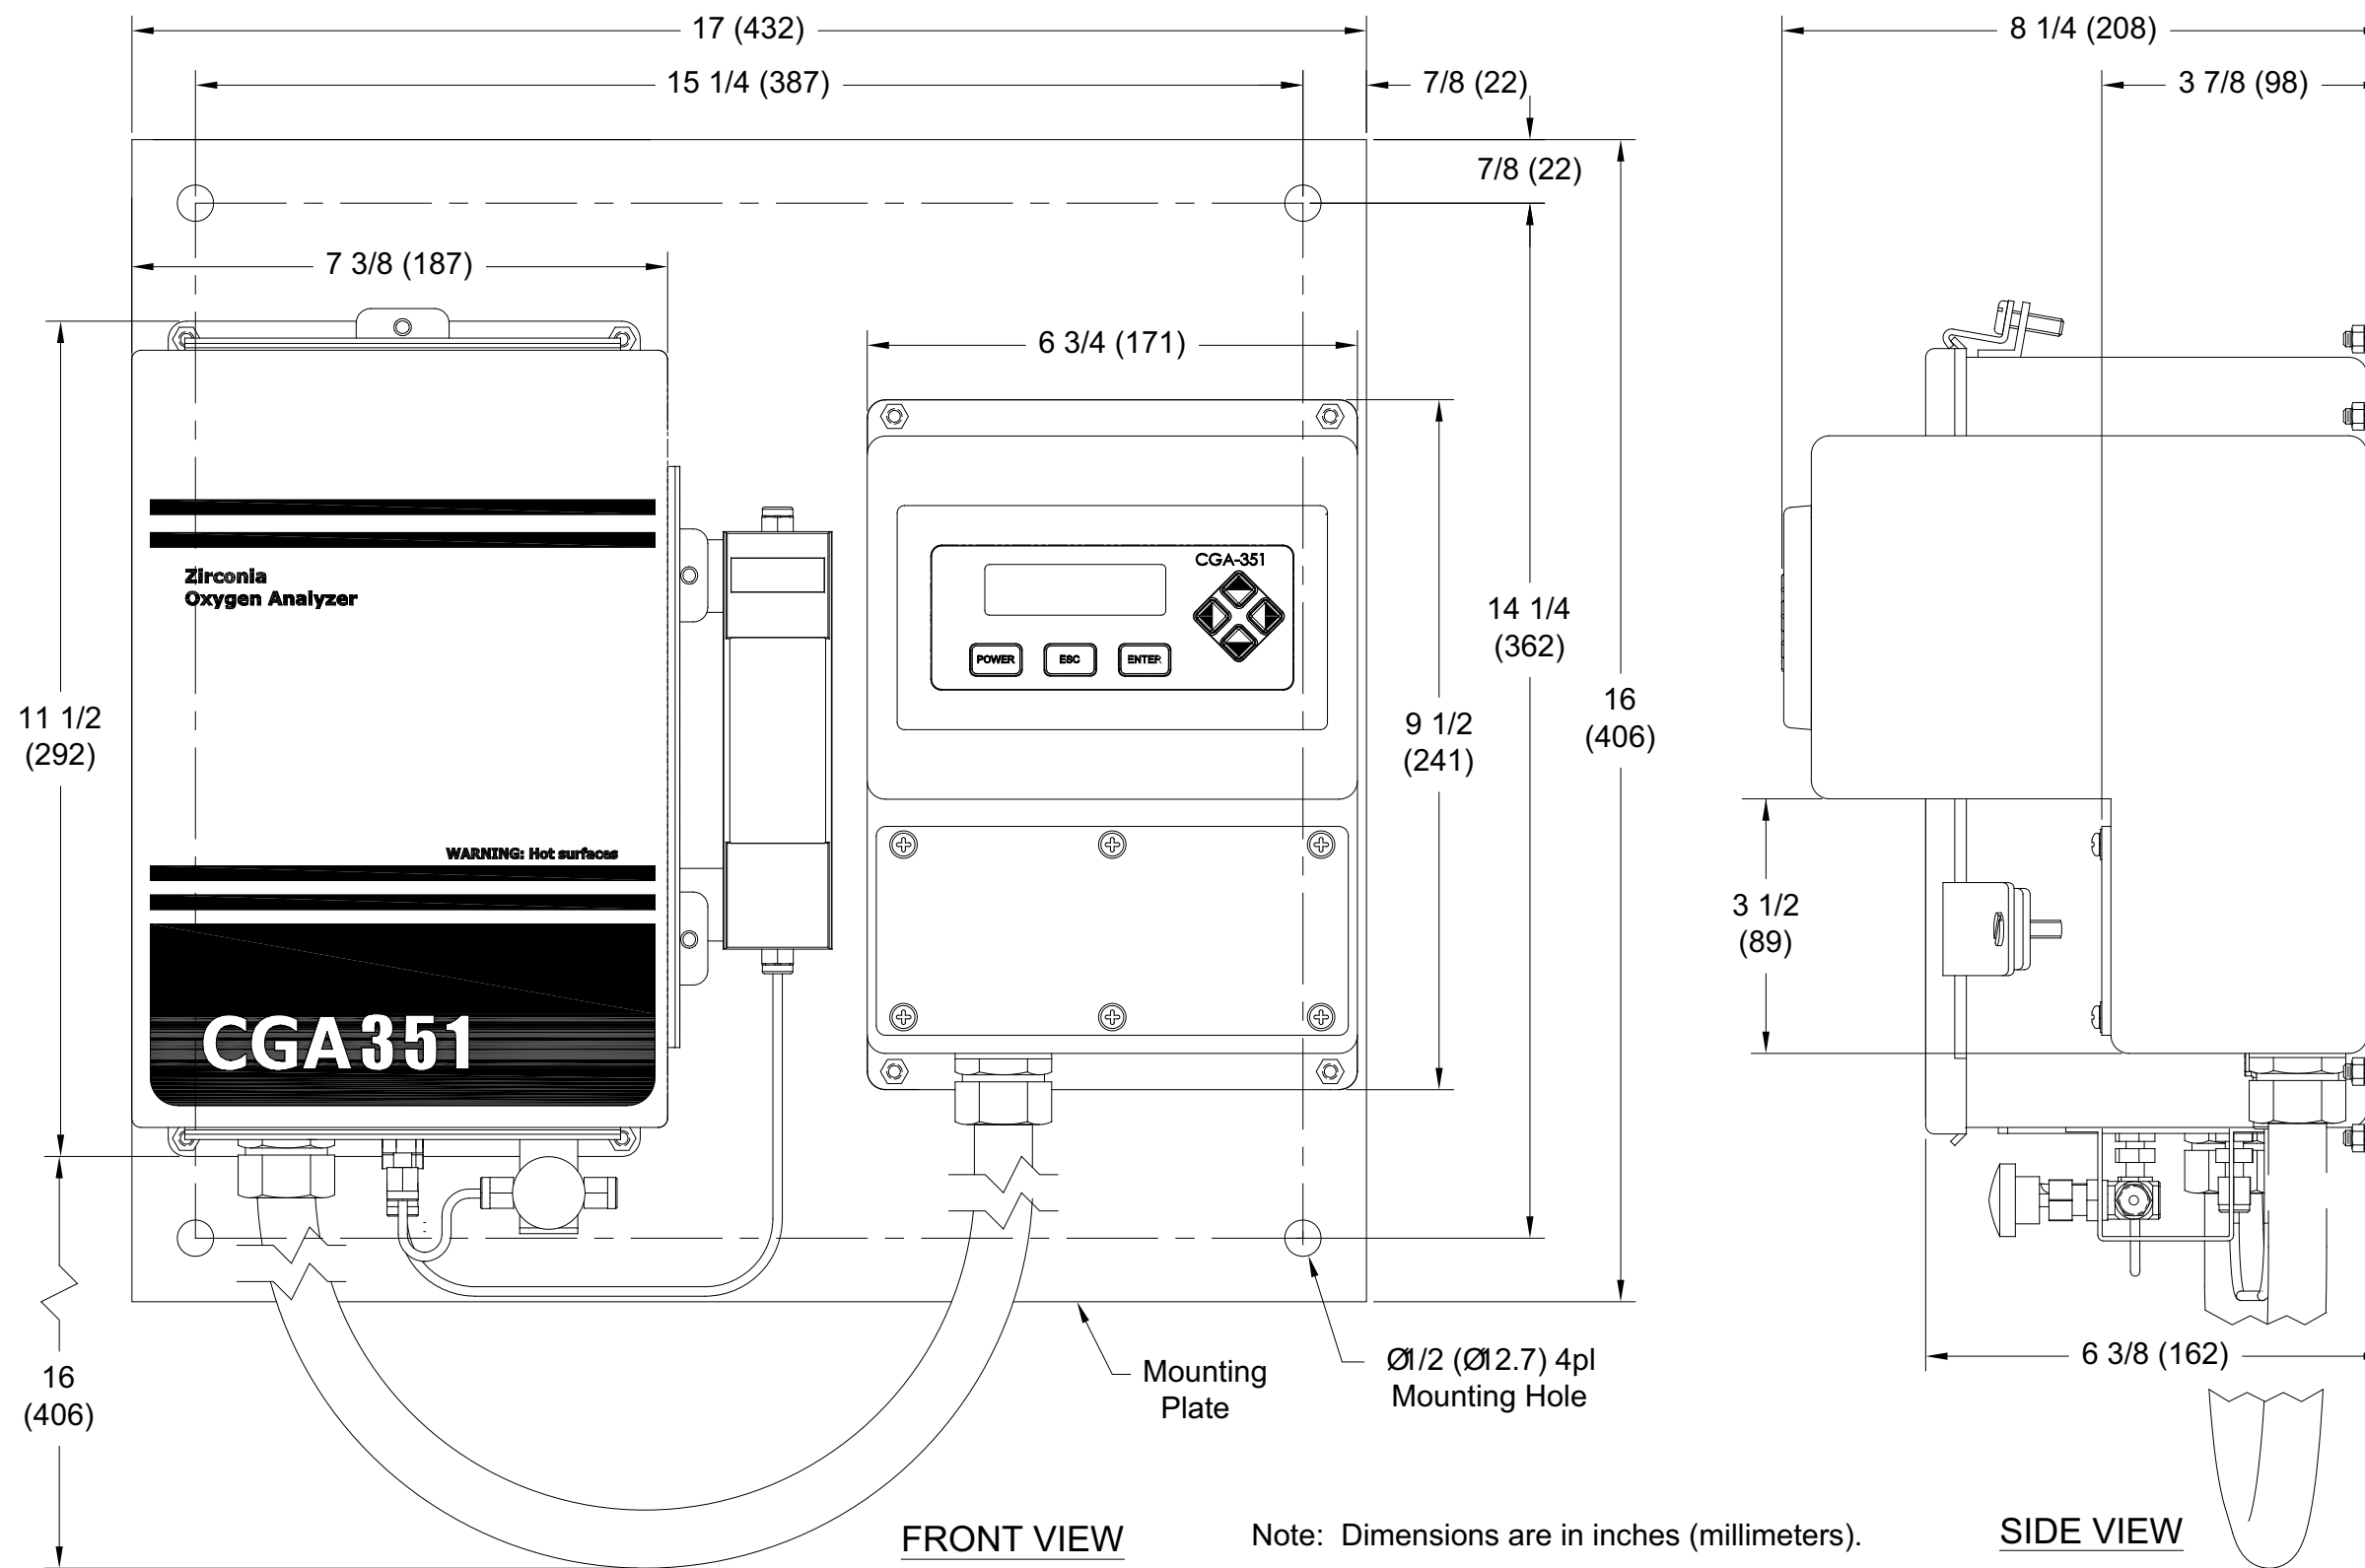

Figure 5: CGA 351 Mounting Dimensions
Refer to *Figure 5 on page 13*, and complete the following steps to mount the CGA 351:
2. Using the mounting dimensions shown in *Figure 5 on page 13*, locate and prepare four (4) mounting holes or two (2) horizontal mounting rails on the vertical surface.
3. Secure the system to the mounting surface with four (4) sets of mounting hardware. Be sure that the enclosures are in a vertical position, with the inlet/outlet connectors on the bottom.
See *Figure 5 on page 13*, and complete the following steps to connect the sample system to the analyzer: